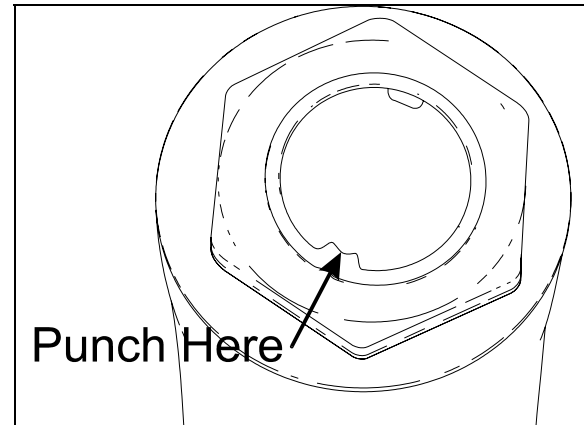

FIGURE 16: FIXING NUT PUNCH MARK
3. Lock nut with sector shaft using a punch mark into the groove (refer to figure 16).